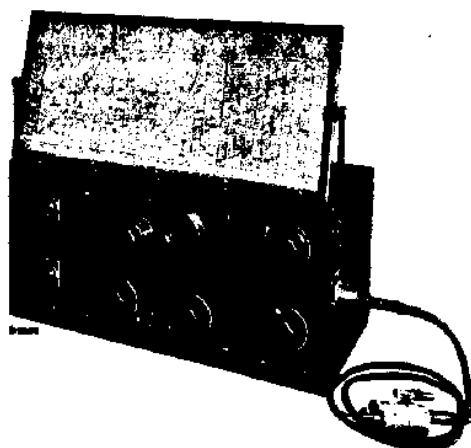

Fig. 1
1. Service oscillator GM 2880F (zie fig. 1).